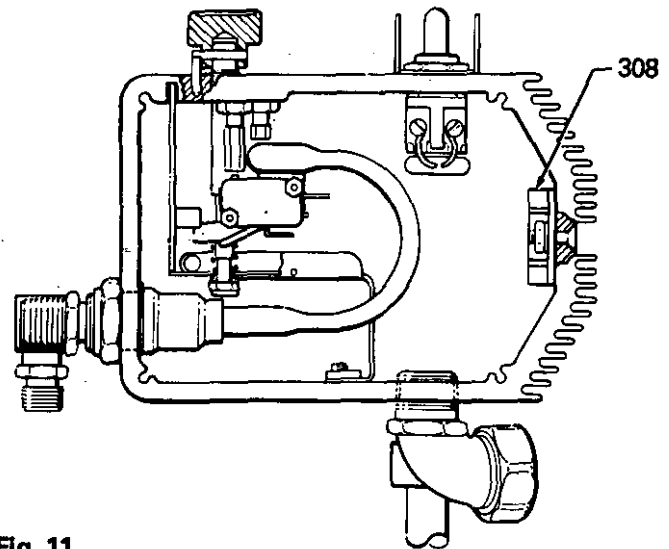

Fig 11
Disconnect the two leads from the motor to the bridge (308). See Fig 11.